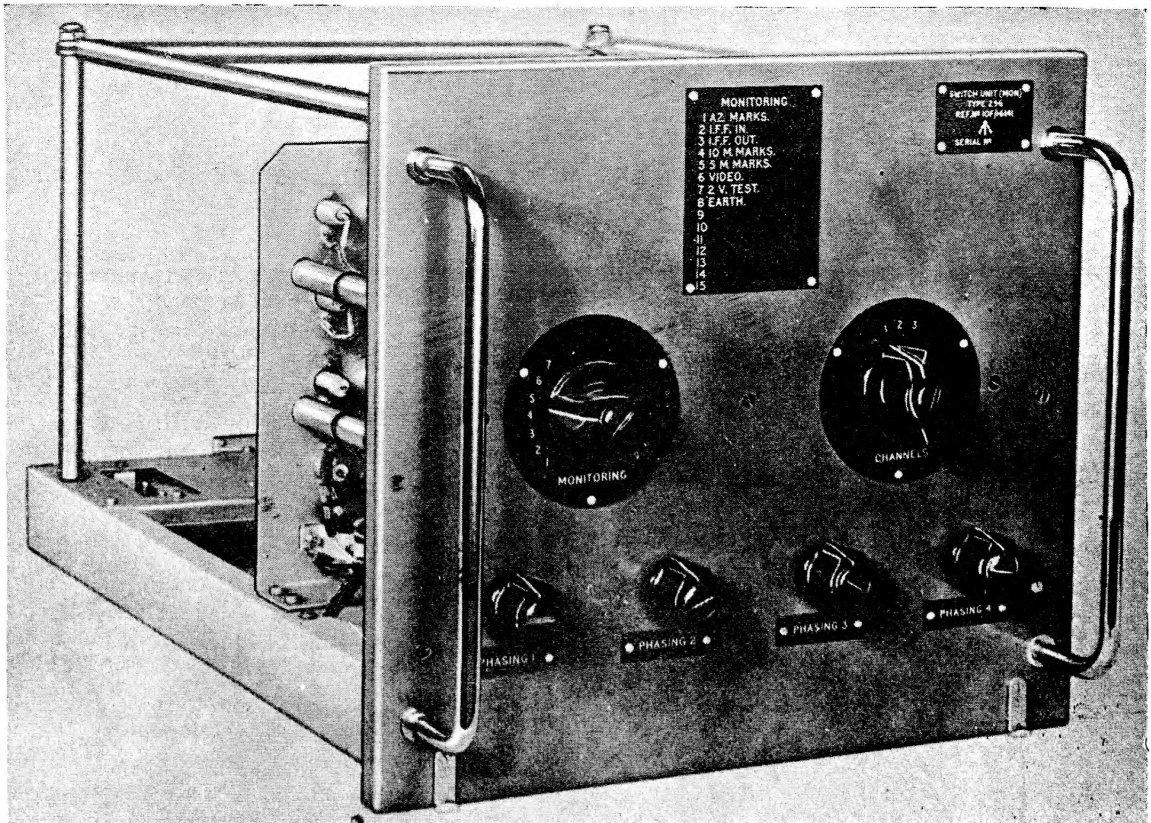

Fig. 1. Switch unit (mon.) Type 296, front panel
2. Illustrations of the switch unit are given in figs. 1 to 4 (inclusive) and a circuit diagram is shown in fig. 5.